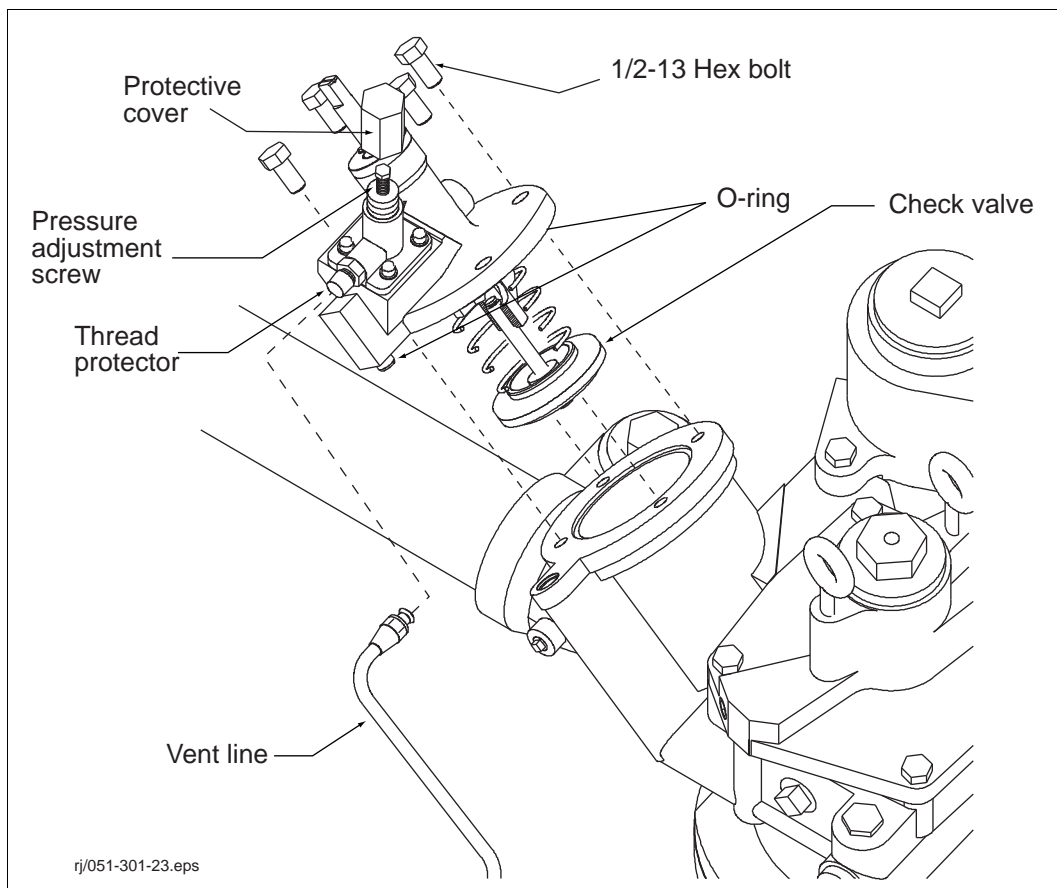

Figure 16. Maxxum® Check Valve Assembly
1. Relieve system pressure by removing the protective cover and then backing out the pressure adjustment screw (see Figure 16).